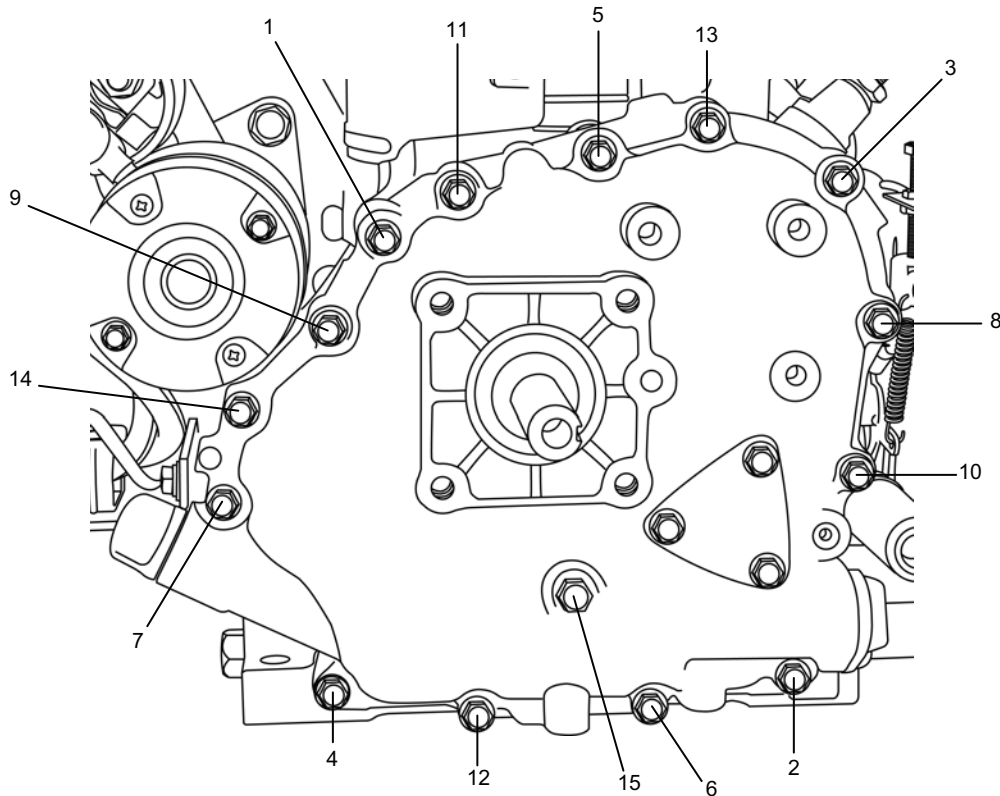

Figure 11. Crankcase Cover Bolt Tightening Sequence.
15. Tighten the bolts in the sequence shown in Figure 11.